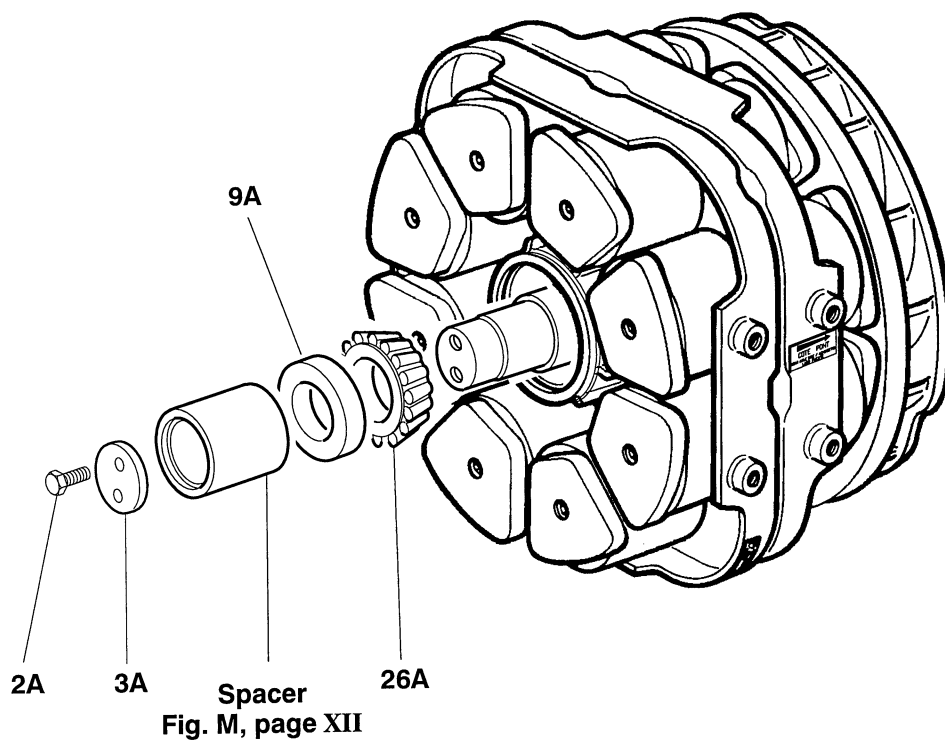

FIGURE 18
– Figures 18 and 19
- the second new bearing, item 26A
- the seal race, item 9A, for the lip seal, with the inner chamfer towards the bearing
- the plate, item 3A
- both shaft end screws, item 2A :